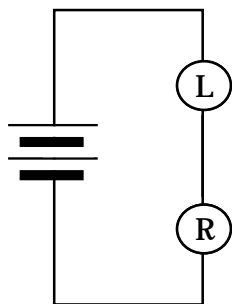

Figure 5.9a
1. Color code the wires in Figures 5.9a and 5.9b. Draw arrowtails to show the flow rates driven by the pressure differences.